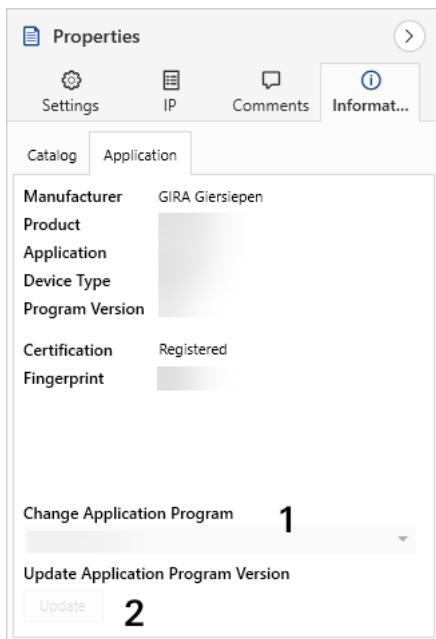

Figure 6: Updating the application program
5. Select the „Update“ button under the item „Update application program version“ (see figure 6, Pos. 2).
If you change the value under „Change application program“ (see figure 6, Pos. 1), user-defined settings will be lost.